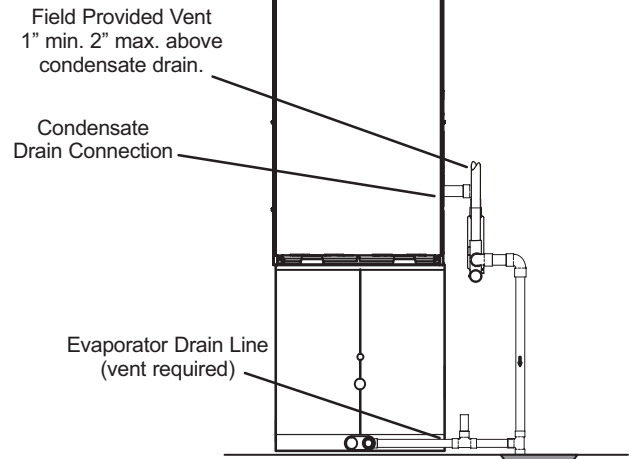
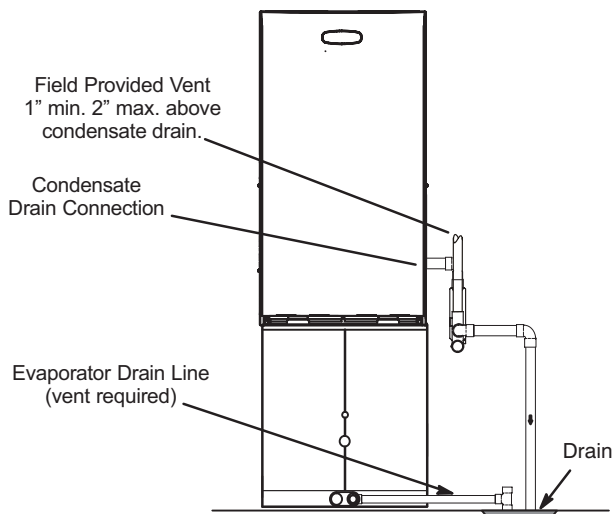
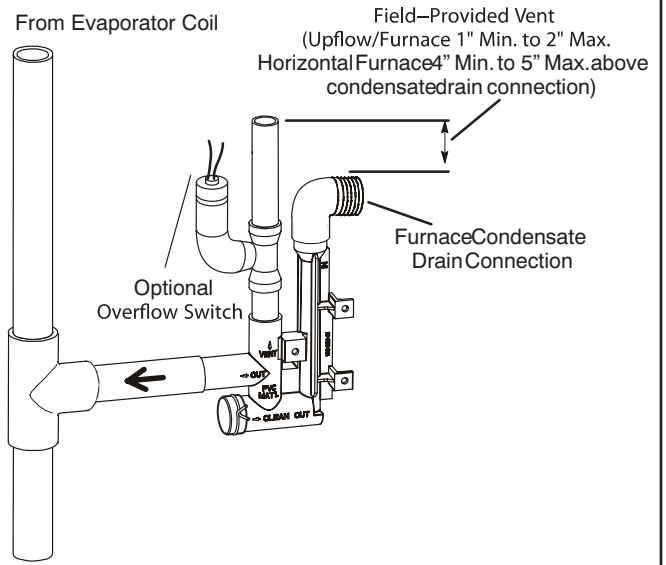

FIGURE 44
FIGURE 43
FIGURE 45
- 5 - FIGURE 43 shows the furnace and evaporator coil using a separate drain. If necessary, the condensate line from the furnace and evaporator coil can drain together. See FIGURE 44 and FIGURE 45. The field provided vent must be a minimum 1" to a maximum 2" length above the condensate drain outlet connection.